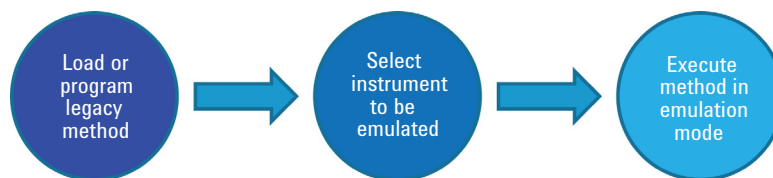

Figure 1 Backward compatibility
- Perform legacy methods, see Figure 1 on page 7